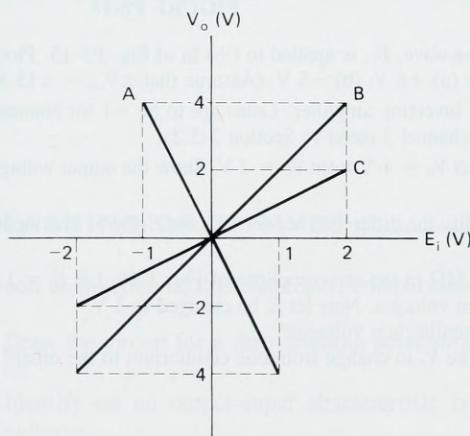

FIGURE P3-13
- 3-13.** Input-output characteristics are shown for three different circuits in Fig. P3-13. Design circuits to recreate plots A, B, and C.